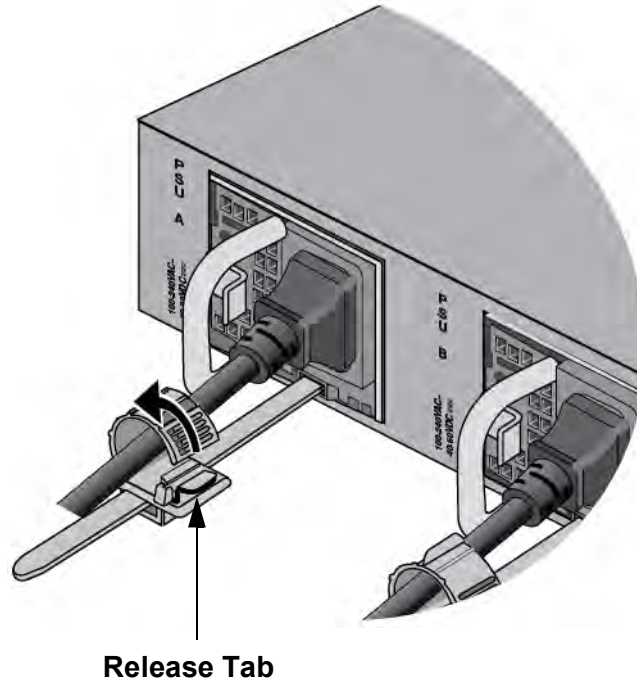

Figure 130. Opening the Restraining Strap on the Power Supply
2. Open the restraining strap on the power cord by pressing down on the release tab and pulling out the strap. Refer to Figure 130 on page 190.